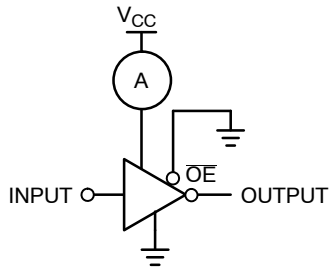

Figure 6. I_{CCD} Test Circuit
5. C_{PD} is defined as the value of the internal equivalent capacitance which is derived from dynamic operating current consumption (I_{CCD}) at no output loading and operating at 50% duty cycle. (see Figure 6) C_{PD} is related to I_{CCD} dynamic operating current by the expression: